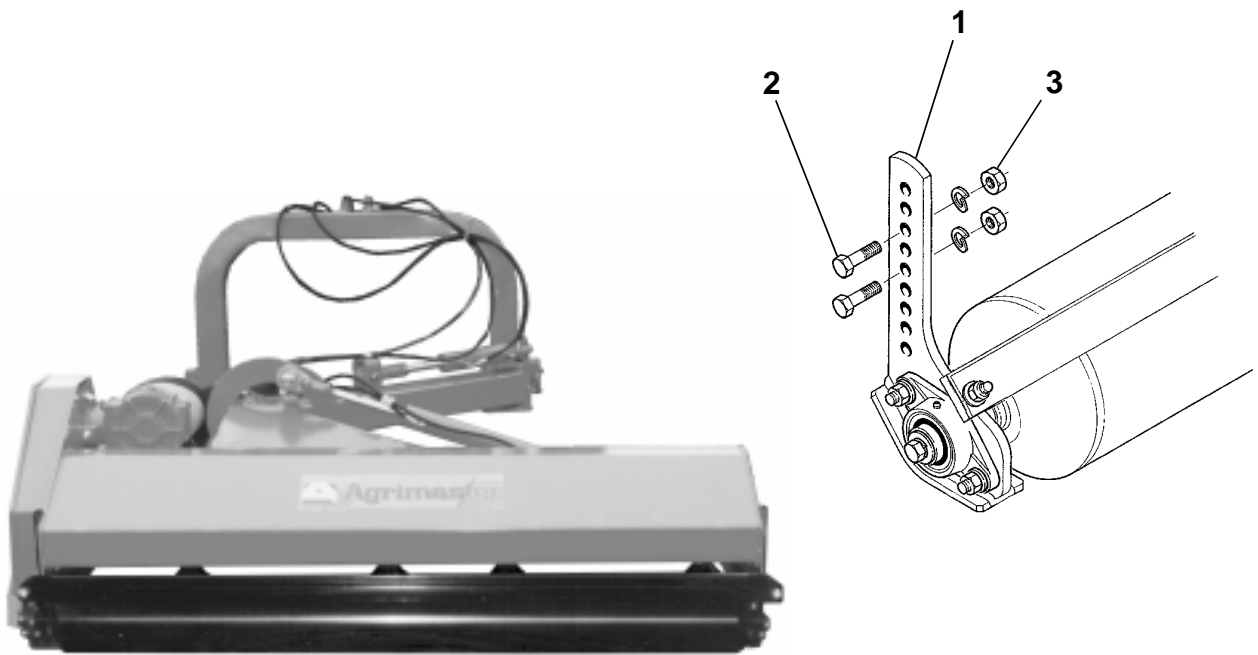

Fig. 9-1 Rullo d'appoggio Ø 194 (FL) - Support roller Ø 194 (FL)
**9.1 Rullo d'appoggio Ø 194****9.1.1 Montaggio rullo FL (Fig. 9-1)**
**9.1 Support roller Ø 194****9.1.1 FL roller assembly (Fig. 9-1)**